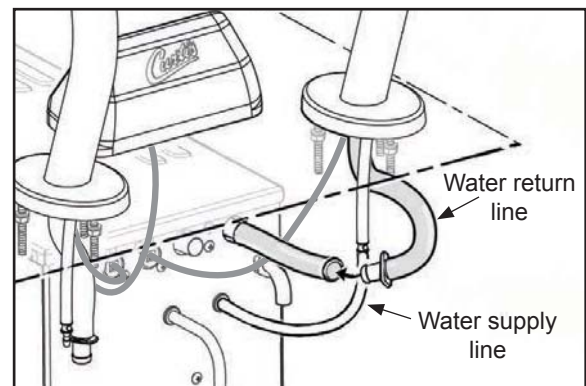

Figure 12 - Attaching the Water Hoses
- 21 Link the brew heads to the water tower by attaching the water return lines. These are the two larger diameter flexible silicone tubes that come from behind the water tower. The matching return lines from the spray head assemblies will have a straight fitting slipped into the end of the tube. Join the return line tubes together using this fitting. Make sure they are correctly oriented as shown in **Figures 12 and 13**.
- 22 Locate the two (2) 1/4 inch diameter water supply lines behind the water tower. Shorten them to minimize length when connected with the matching 1/4 inch tubing coming from the bottom of the brew head assemblies.
- 23 Insert the water supply tubes from the back of the water tower into the barbed connector on the supply line tube fittings from the brew head assemblies. See **Figure 12**.